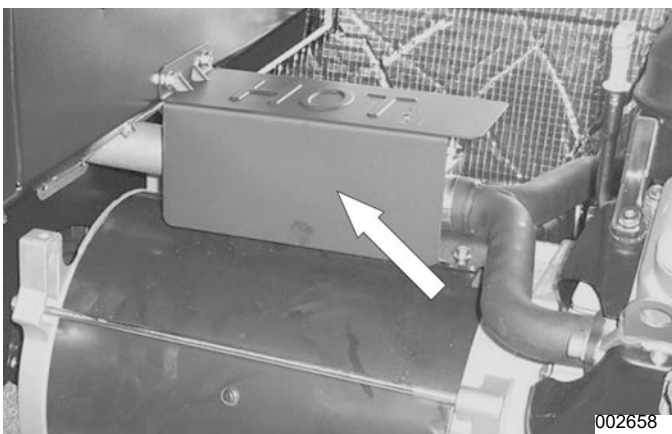

Figure 4-41.
3. **Remove Exhaust Flex Cover:** See Figure 4-41. Use a 10 mm socket to remove the two bolts from the exhaust flex pipe cover. Remove the cover.